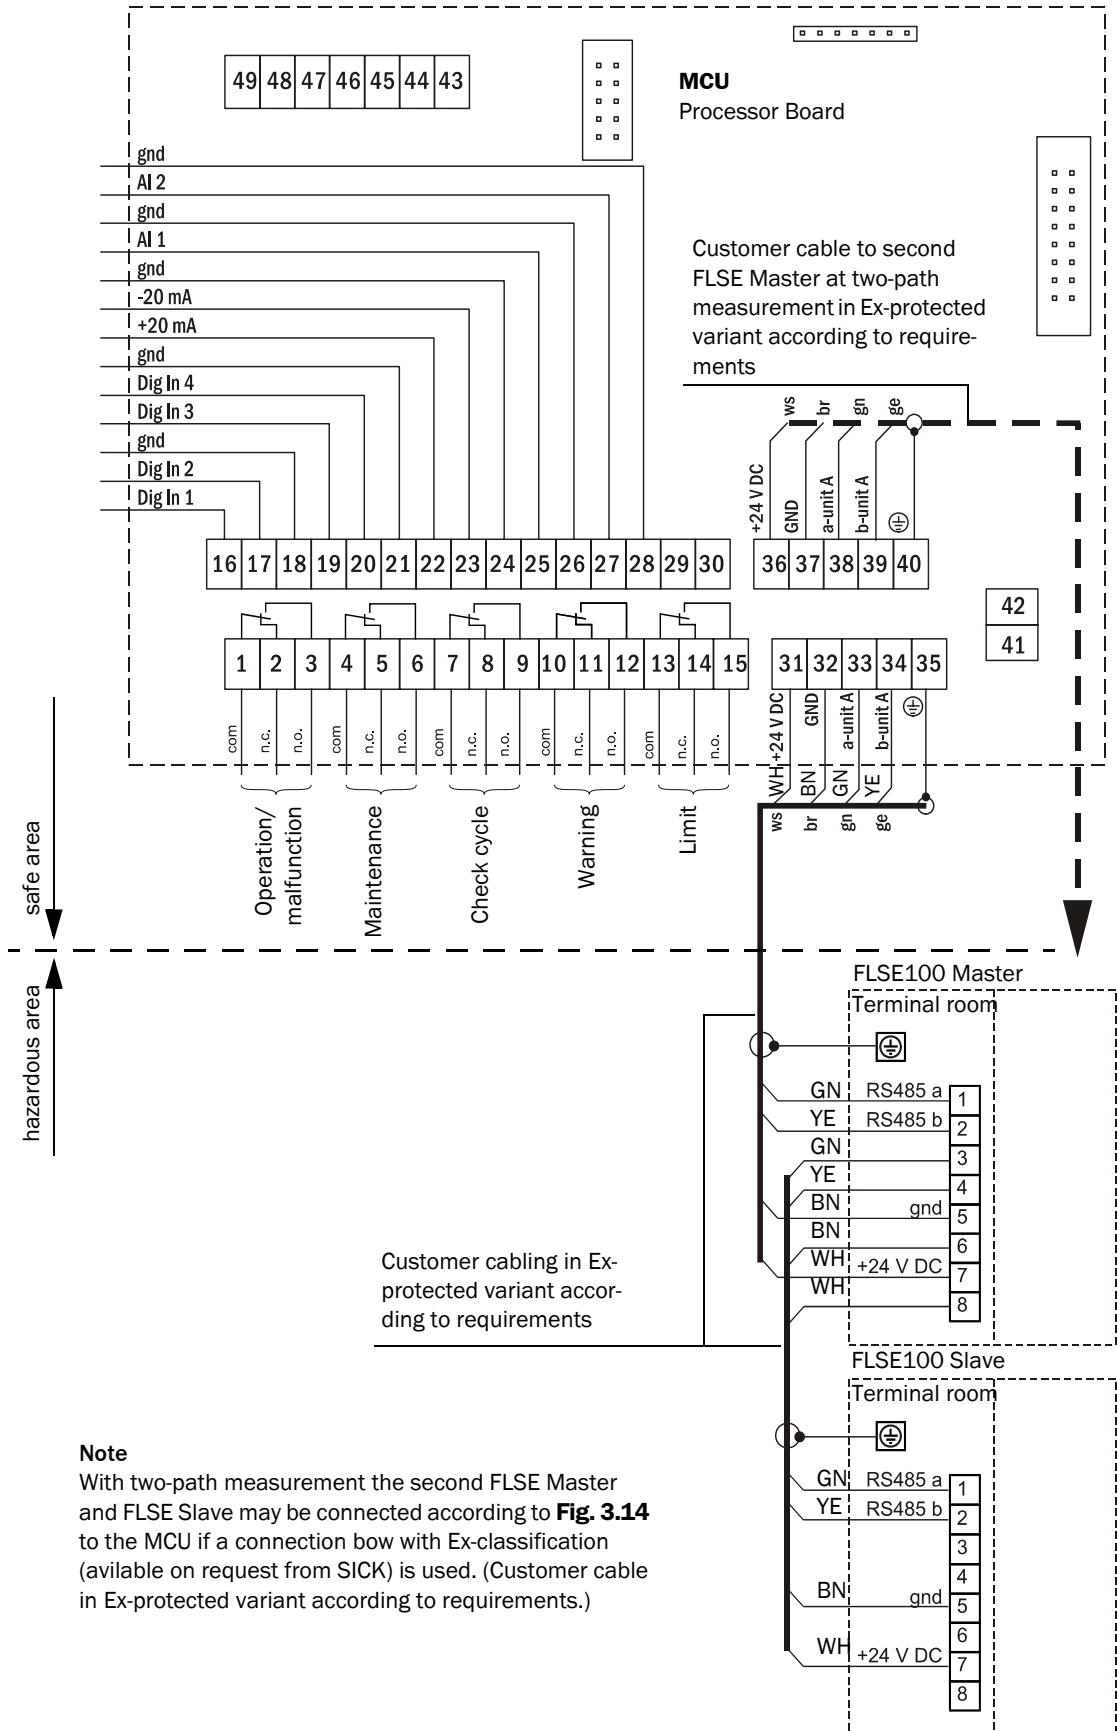

Fig. 3.16: FLOWVIC100 EX-22 / EX-22-RE
- ▶ Connect the cables for the sender/receiver units as shown in **Fig. 3.16**.
- ▶ Connect the cable provided by the customer according to xxFig 3.13 and Fig 3.16 xx and the above table to FLSE-Master, FLSE-Slave and MCU/MCUEX.